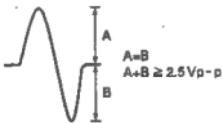

Figure 8
3. While watching the oscilloscope screen, press the PROGRAM key and observe the waveform in Figure 8 for a moment. Verify that the amplitude is at least  $2.5 \text{ Vp-p}$  and that the positive and negative amplitude are about equal. Since the waveform is only output for a moment when the PROGRAM key is pressed, press this key over and over until you have checked the waveform.